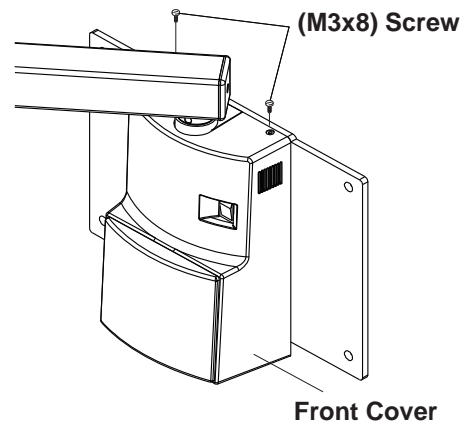

Fig.3-9B Attaching Front Cover
2. Install two (M3 x 8mm) screws into the top of the cover and confirm that the cover is securely attached. (**Fig. 3-9B**)